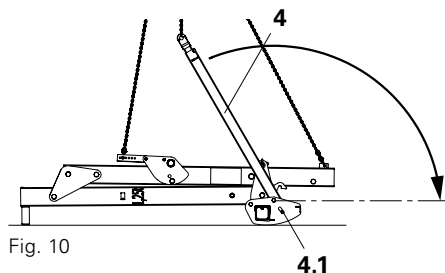

Fig. 10
1. Fold down the fork arms (4) one after the other with the crane until the safety bolt (4.1) engages. (Fig. 10)